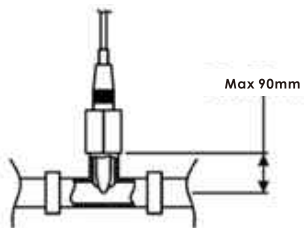

Fig. 4
- b) Saddle for the pH injector (Fig. 4): Before installation, drill a hole in the pipe after the electrolysis cell with size approx. 9 mm. Install a socket with connection 3/8" female GAS thread connection in the saddle. The injection valve will be connected to the socket.
b) pH 注射器的鞍座 (图4)：在安装前，在电解盒后的管道上钻一个尺寸大约9毫米的孔。用3/8” 的母螺纹连接将一个插座安装在鞍座里。喷射阀将与此插座相连。